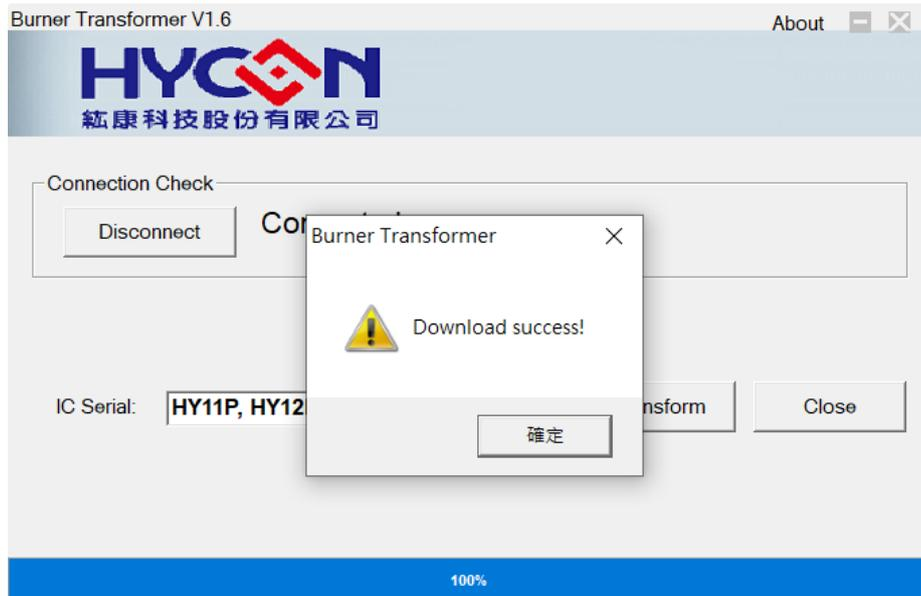

Figure 3-4
- If the update is OK, the progress bar will display 100%, and a message window will appear (as shown in Figure 3-4) indicating that the firmware has been downloaded successfully, at this time, close the software, unplug the USB cable and remove the short circuit.